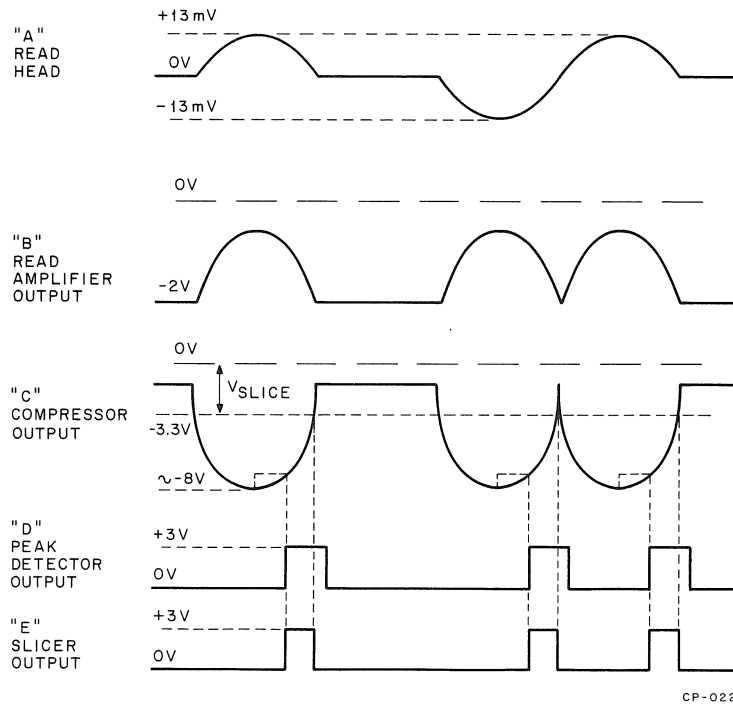

Figure 4-12 Read Circuit Waveforms (Units up to No. 10320)
4.4.5.1 TU10 DECmagtape Transports up to No. 10320 – An equivalent circuit of one of the 9 (or 7) read channels is shown in Figure 4-11. Figure 4-12 shows possible read signal waveforms at the indicated points. For more complete and accurate representations, see drawings TU10-0-10 and TU10-0-08. Although for simplicity this discussion considers only one read channel, the user should remember that the read electronics includes either 9 or 7 identical, parallel read channels.
The output of the Compressor is routed to two circuits, the Peak Detector (G062) and the Slicer (G064). The Peak Detector is somewhat misnamed in that it does not actually detect the peak of the Compressor output waveform, but rather generates a positive-going logic level transition when the Compressor output swings approximately 1.4V more positive than its negative peak, on the trailing side of the Compressor output pulse (see Figure 4-12). This signal does, however, have a fixed phase relationship to the peak of the Compressor output independent of the magnitude of the Compressor output pulse due to the logarithmic transfer function of the Compressor.